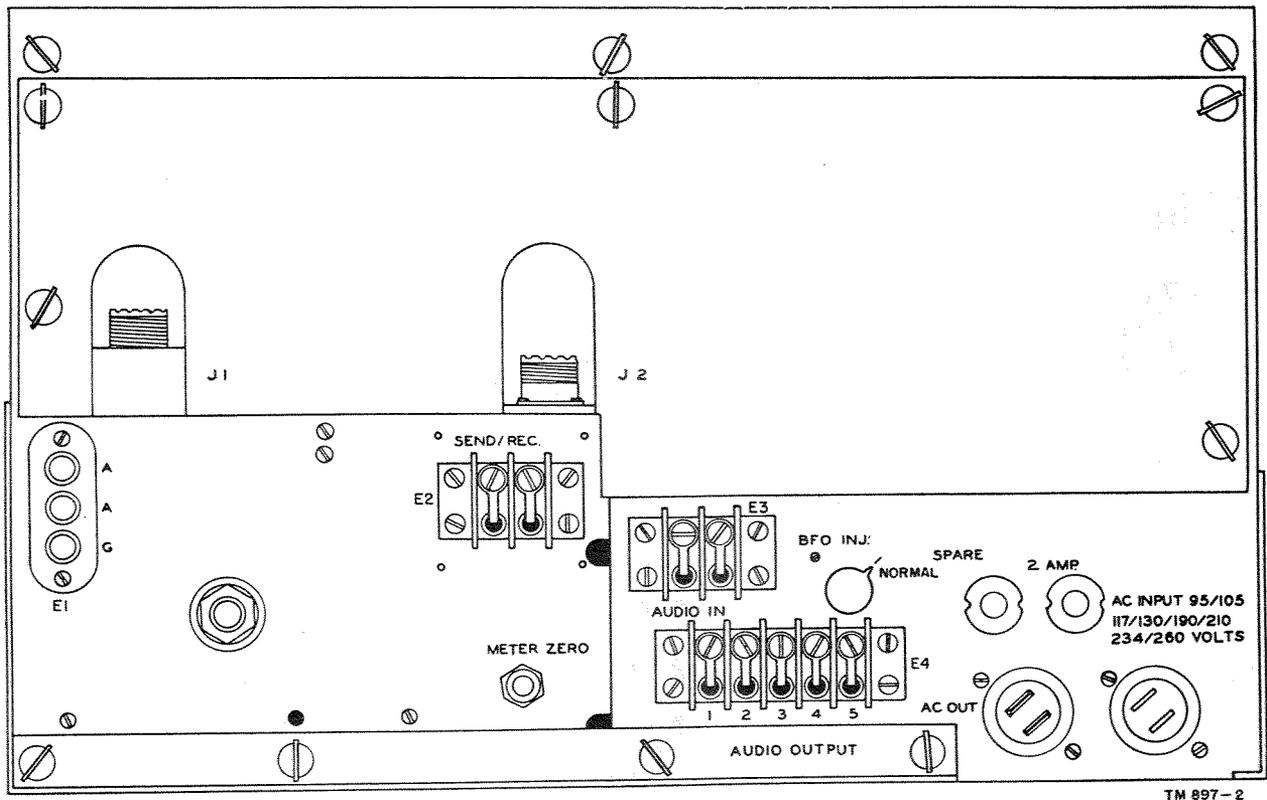

Figure 2. Radio Receiver R-274/FRR, rear view.
a. Determine whether a speaker (such as Loudspeaker LS-2 or LS-3) and/or some other type equipment is required to be connected to the output of the receiver. Connect the speaker, if used, to the AUDIO OUTPUT terminal strip (E4) on the rear of the chassis (fig. 2). The audio output is designed to match either a 150- or 600-ohm load by connecting the secondary speaker windings of the audio output transformer, T35, in series or just using one of the secondary windings. Normally, when matching a speaker to a line, the 600-ohm output is preferred. In this case, the secondary may be connected in series by connecting a jumper wire across terminals 2 and 4 on the AUDIO OUTPUT terminal strip (E4). If a speaker of the permanent magnet type is used with a low-impedance voice coil (3 to 50 ohms), a matching transformer should be used between the receiver audio output and the speaker. A headset, such as Headset HS-30, may be plugged into the PHONES jack J3 on the front panel. Other types of headsets may be used, such as Headset Assembly CW-49507 (Navy) and Headset Extension Cord CW-49534. Radioteletype equipment is connected through RF Cable Assembly CG-562/U (not supplied) to jack J2 on the top rear of the chassis. Connect a 600-ohm 2-watt load resistor across terminals 1 and 5 of the AUDIO OUTPUT strip E4 if no external equipment is to be connected to this output, and place a jumper wire across terminals 2 and 4.
c. To provide a remote connection for a standby switch, the connecting wires must be connected to the SEND/REC. terminal strip E2 on the rear of the chassis (fig. 2). To make connections to this terminal strip, the terminal strip cover must be removed by taking out the two retaining screws.